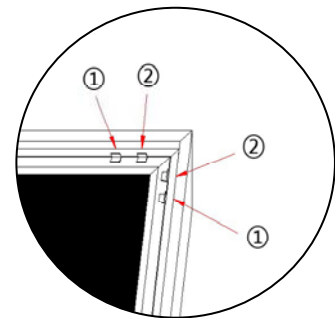

Fig. 4
- (3) Insert the fix plates as shown on Fig. 2. Fix plate ① is about 10cm away from the frame's corner. Fix plate ② is about 5cm away. (Fig.4)